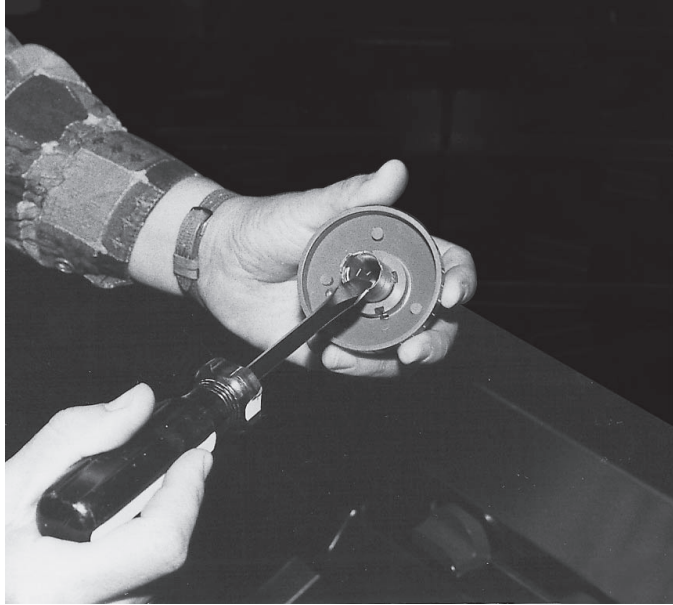

Fig. 19
5. Using a screwdriver placed through the dial shaft, push the metal dial insert out of the dial (Fig. 19).